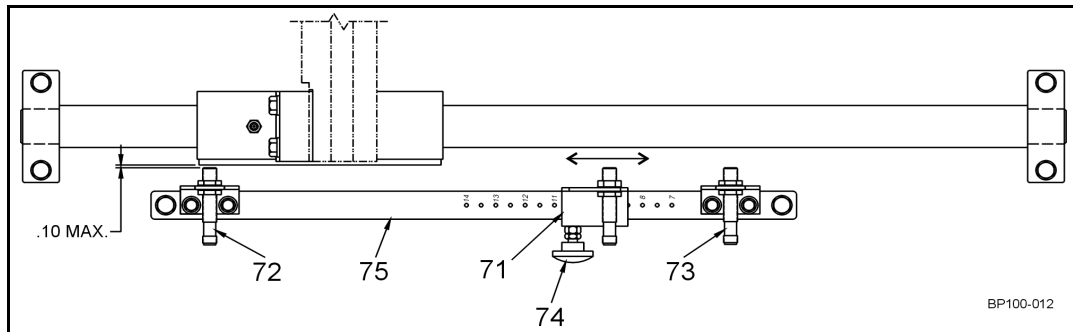

Figure 4 - Width Control Mechanism
To set width, loosen knob (Figure 4, item 74) and move standard width switch (PX6) (item 71) along slide plate (item 75) to desired setting. Item 72 proximity switch indicates home position. Item 73 proximity switch indicates eject position.